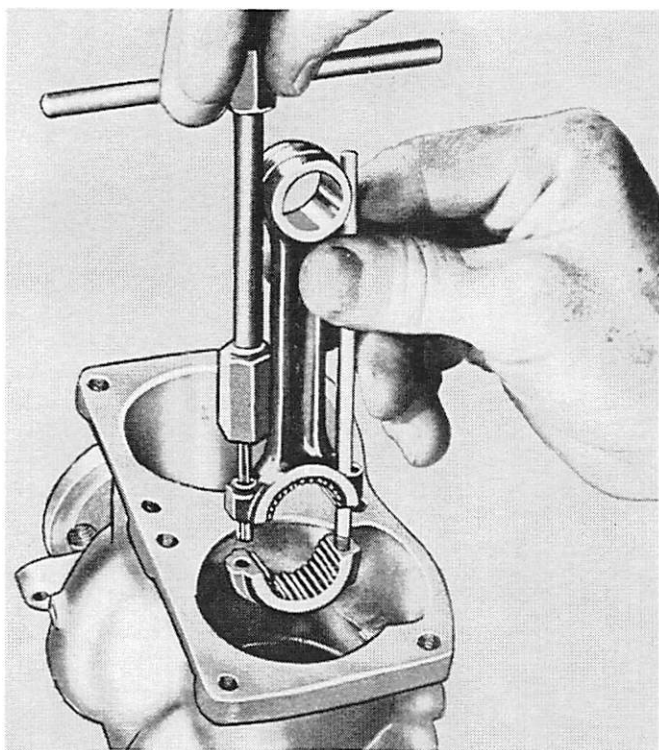

Figure 14. Installing Connecting Rods
8. Assemble rod to crankshaft with Connecting Rod Cap Holder (91-24254). (Figure 14)